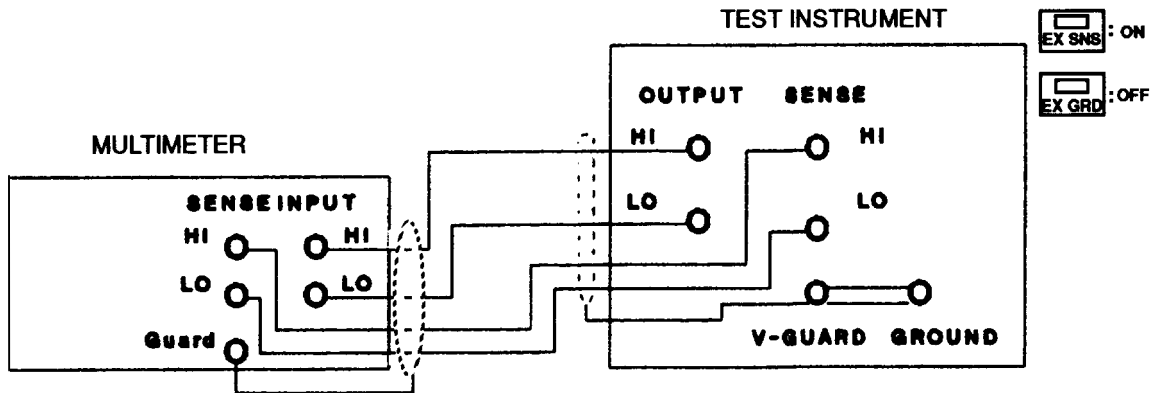

Figure 5. Resistance (0 through 1 MΩ).
a. Connect equipment as shown in figure 5.